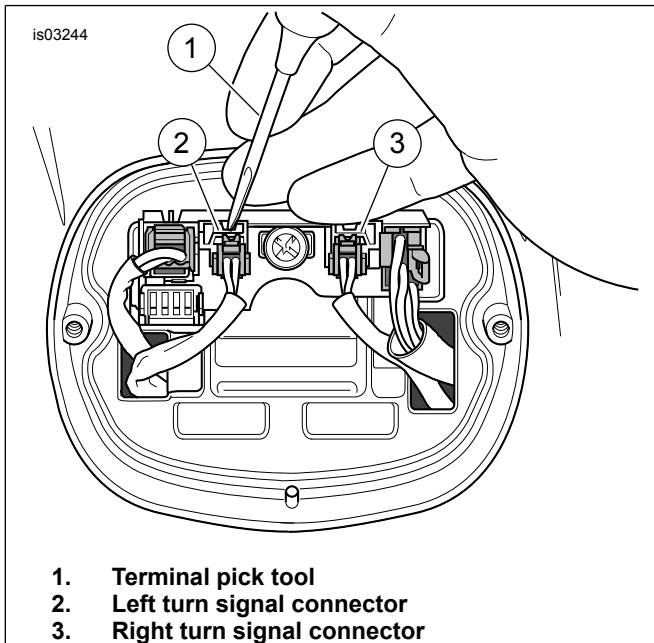

Figure 2. Remove Turn Signal Connectors
3. See Figure 2. Using a Terminal Pick Tool (1), depress locking tabs and remove turn signal connectors (2-place) (2, 3). Save connectors for kit installation. Refer to AMP MULTILOCK ELECTRICAL CONNECTORS in Service Manual.